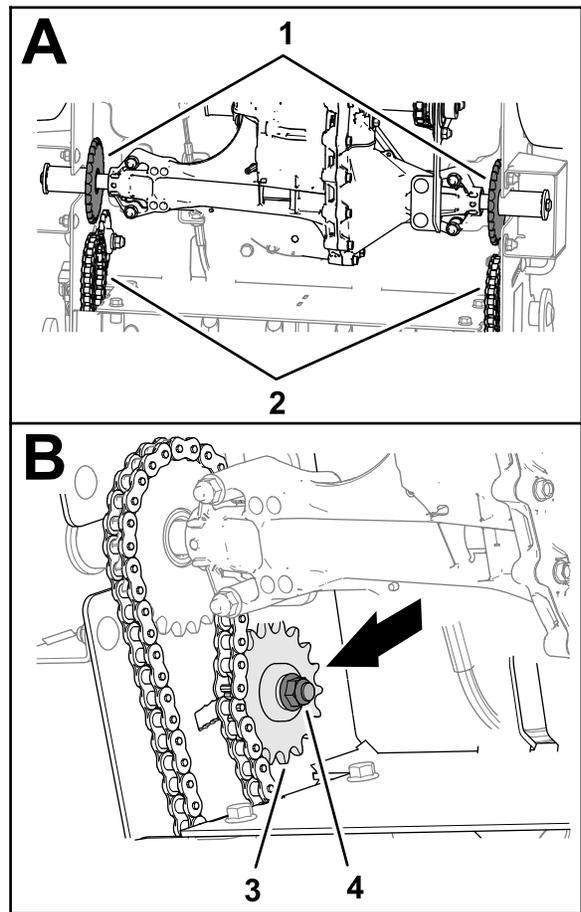

Figure 66
- 3. Assemble the drive chains onto the front tine-drive sprockets and idler sprockets (Figure 66), and secure the chains with the connecting links.